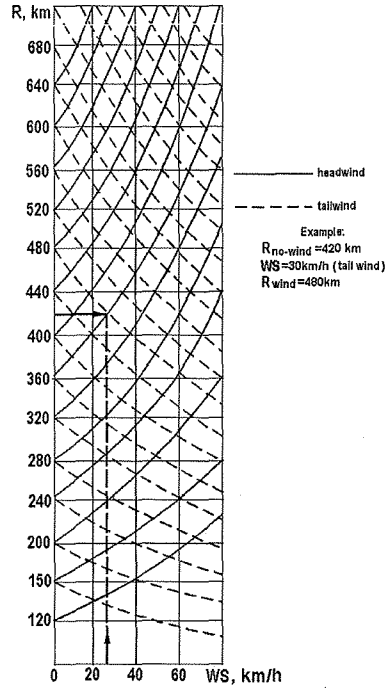

Fig. 1.13 Range versus Equivalent Wind
The wind effect on the range is accounted for by means of the graph in Fig. 1.13, the equivalent wind being the input value.
- On the graph in Fig. 1.13 from the point of intersection of the lines depicting the range in no-wind condition and the equivalent wind draw a line equidistant to the wind lines (tailwind or headwind) until it intersects the R axis and have the range in wind (tailwind or headwind).
On the graph in Fig. 1.13 find a point corresponding to the range in no-wind conditions and to the equivalent wind speed and draw a line equidistant to the grid from this point to the range axes. The range in wind is 480 km.